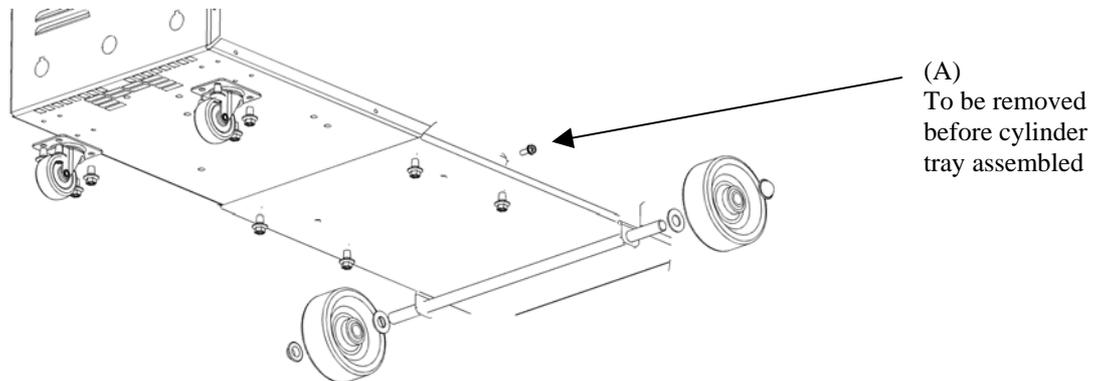

Figure 1 - Castor and Tray Assembly
- Install the washers, wheels, and Fastener in the position as shown Figure 1.
- Install the two swivel castors in the position as shown in Figure 1 using M8 fasteners.
- Remove M5 screws, as shown by (A) in Figure 1, from either side of power source.
- Install assembled cylinder tray in position shown in Figure 1 using the M8 fasteners.